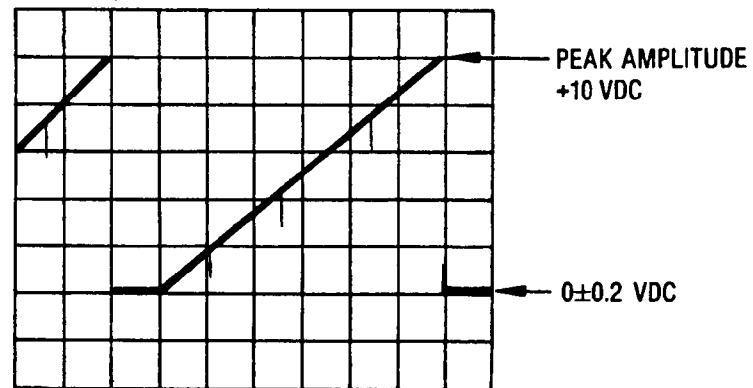

Figure 5-49. Sweep Out Waveform
8. Set the oscilloscope's trigger to channel 2 and set channel 2 vertical input for dc coupling. Adjust the oscilloscope for the display shown in figure 5-49.